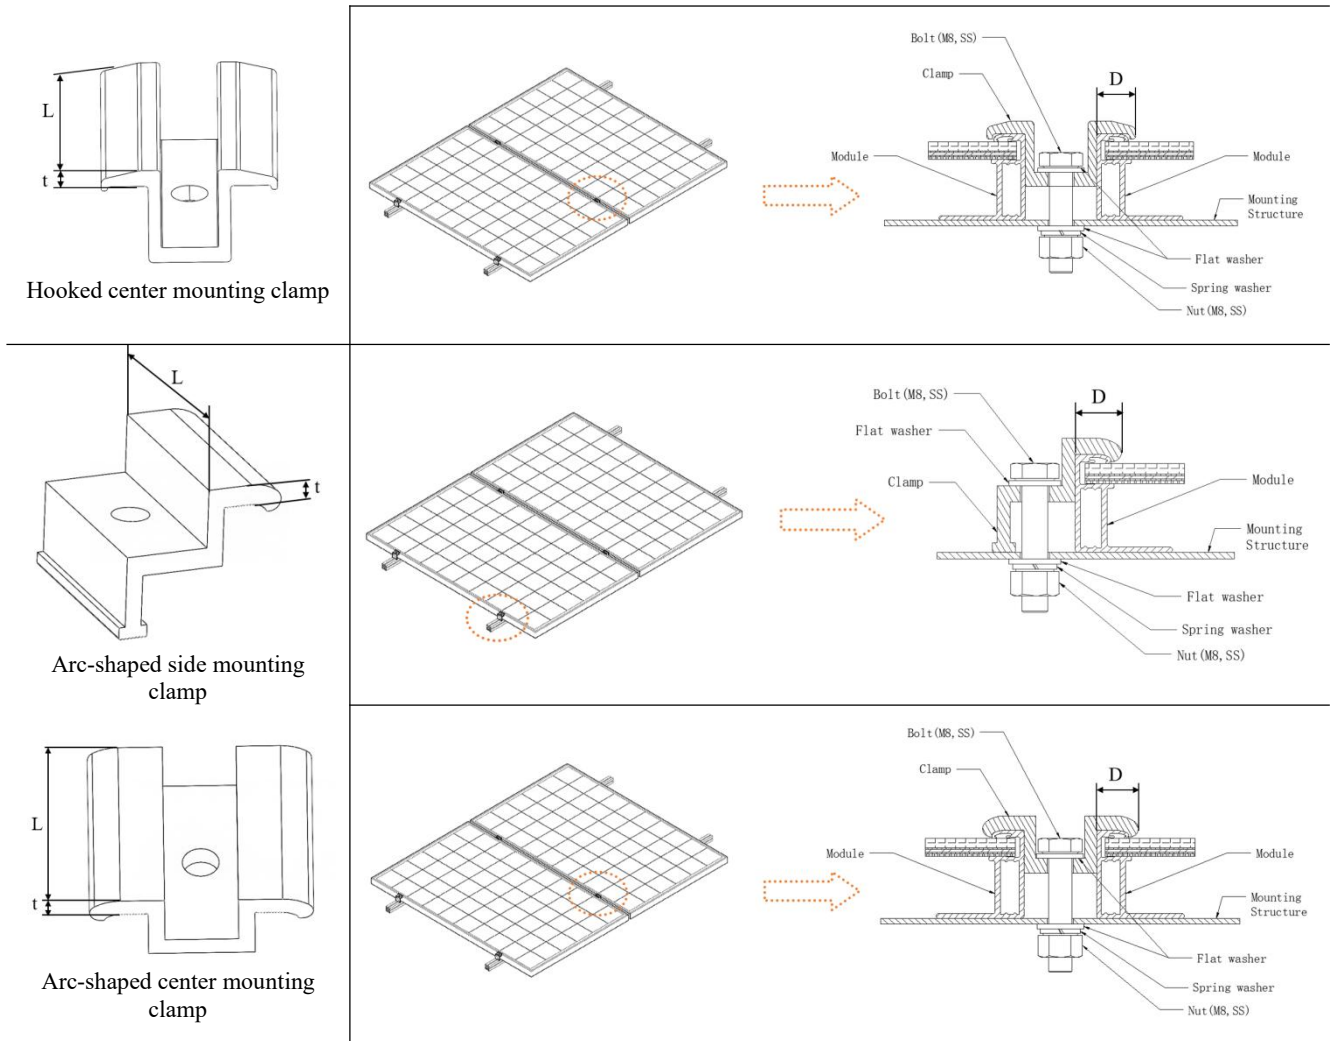

Figure 15 Installation of aluminum frame Module mounting clamp
- ◇ When selecting the mounting clamp method, ensure that there are at least four clamps on each Module, and the clamp need to be arranged symmetrically (Figure 15). The different mounting positions of the clamps affect the maximum load capacity of the Modules (Table 2).